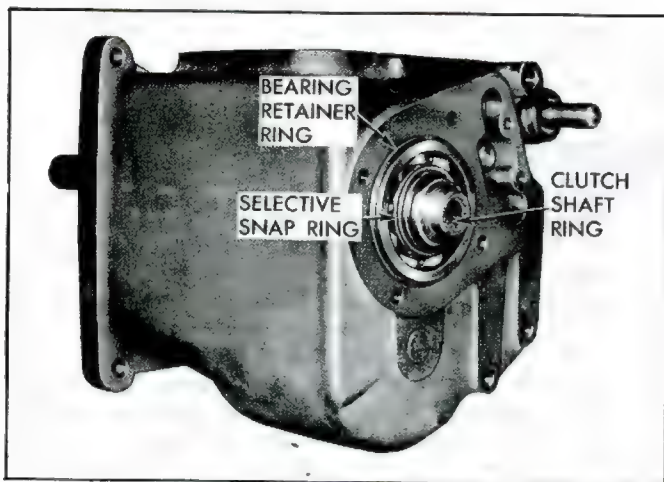

Fig. 7B-4—Clutch Gear and Bearing Snap Rings
9. Using a pin punch, drive roll pin from reverse shifter head (fig. 7B-7), then remove shifter head and shaft from case by tapping shaft out in either direction with a drift.